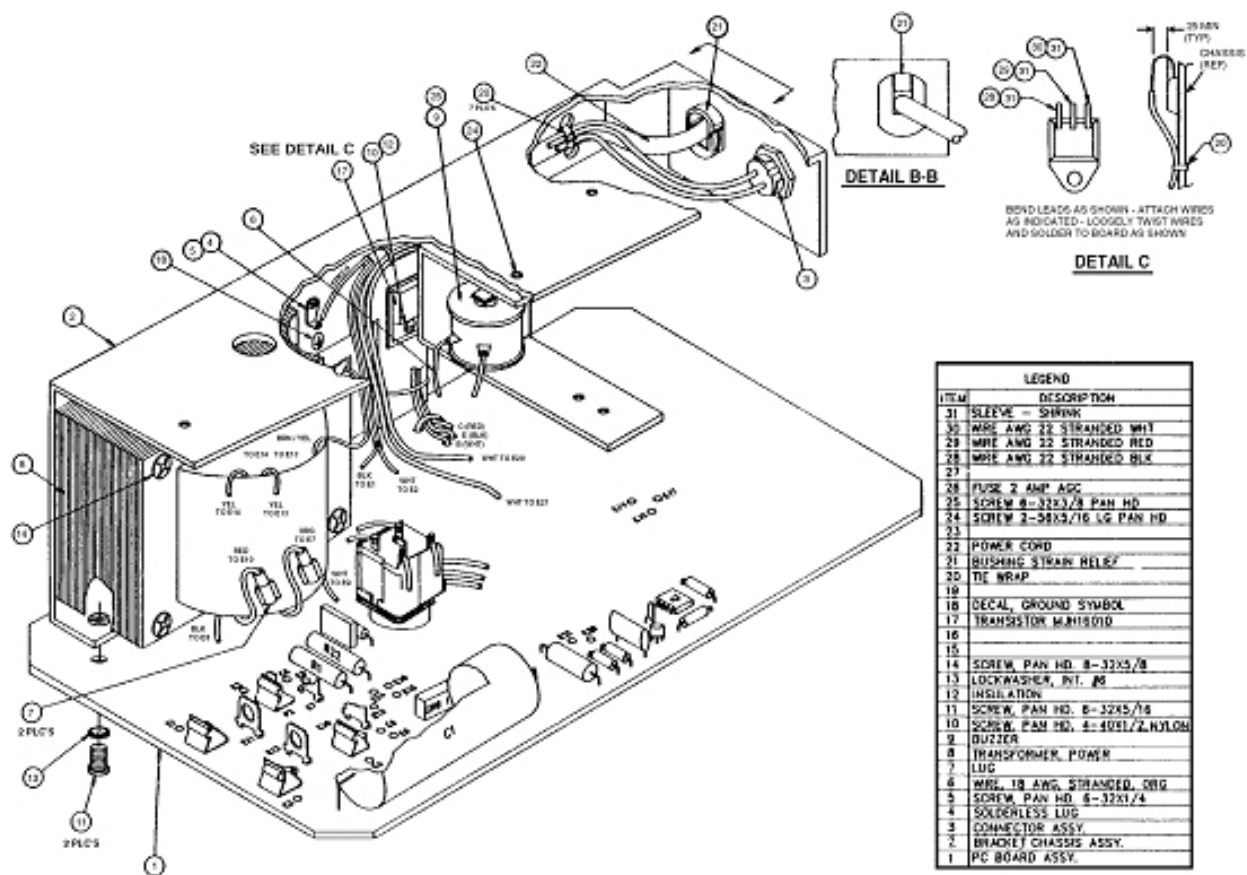

Figure 2-6. Main chassis assembly (110v).
The modules included in this lesson represent a portion of the total number of modules in this piece of equipment. The skills required to remove and repair or replace a portion of the modules are transferable to removing and repairing or replacing all modules. Study the location of the modules and components in figure 2-6, Main chassis assembly (110v).
- i. Remove and replace the PCB. Mark all wires and connectors so that they can be properly reconnected (figure 2-6).
- k. Perform an operational checkout. Refer to paragraphs 1-7c(1) through (9).